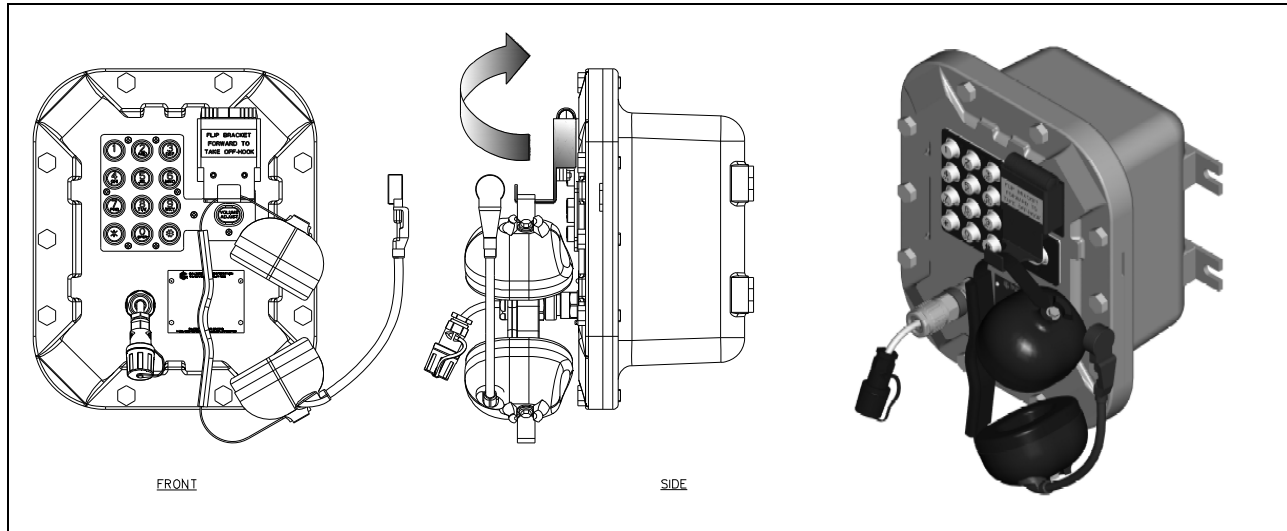

Figure 12. Models 352-003 and 352-004
2. To place a call, remove the headset from the headset activation bracket and flip the headset bracket forward to its preset position (see Figure 12).